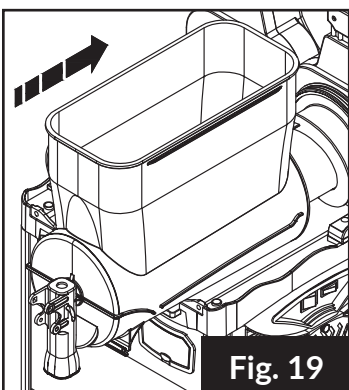

Fig. 19
6. After all bowl components are properly positioned and lubricated, slide the Bowl into position. (Fig. 19)